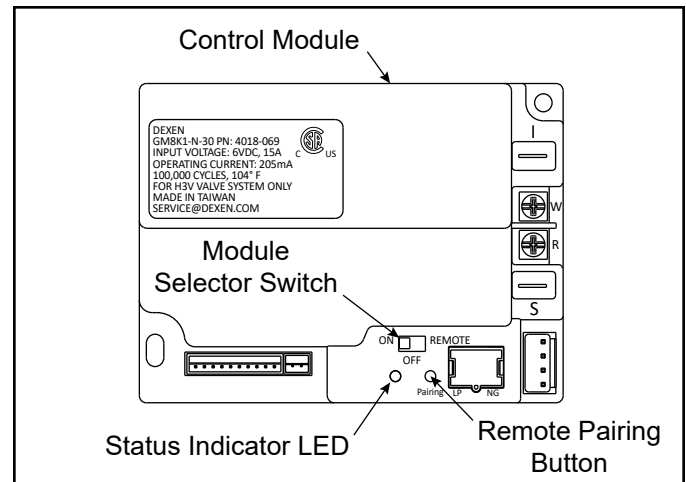

Figure 8.2 Control Module
The control module has an ON/OFF/REMOTE selector switch that must be set. See Figure 8.2.
1. Locate the module selector switch. See Figure 8.2.
1. On the Control Module, verify the ON/OFF/REMOTE switch is in the REMOTE position. Green LED light will blink three times and will beep once 5 seconds later when ready. See Figure 8.2.
2. Using a small item (such as a paper clip) press and release the PAIRING button located near the ON/OFF/ REMOTE switch. See Figure 8.2.